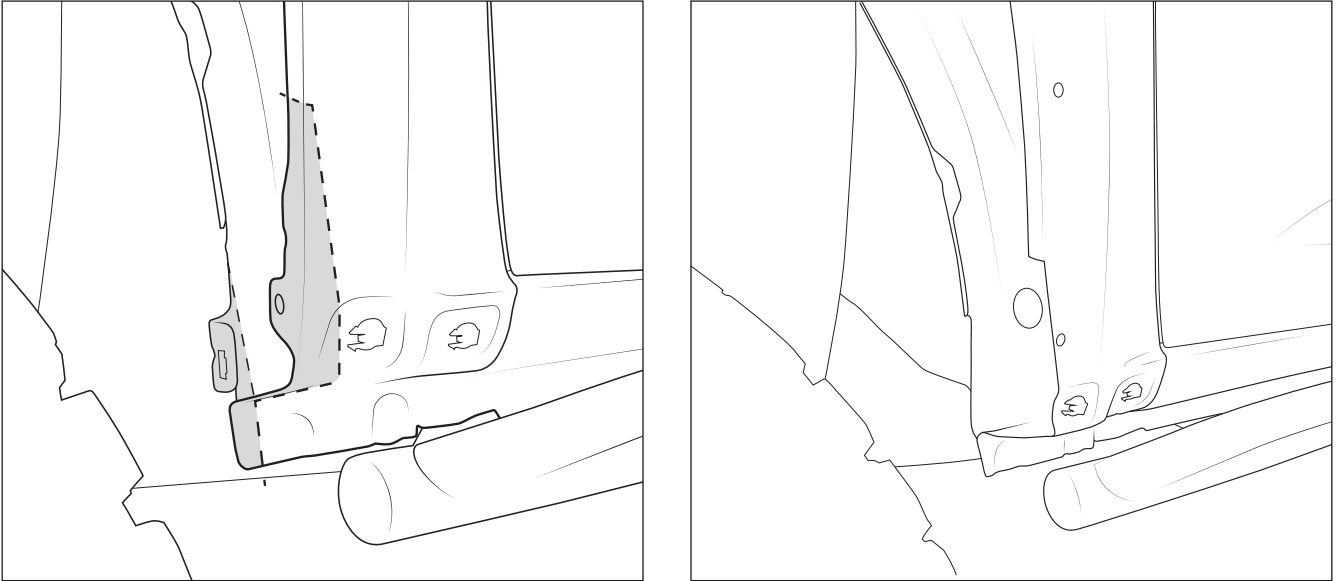

Figure 3: Before (left) After (right)
1. Use template (LH: AEV30356AA & RH: AEV30357AA **BE SURE TO CHECK SCALE**) to mark cut line on sheet metal (fig. 3).